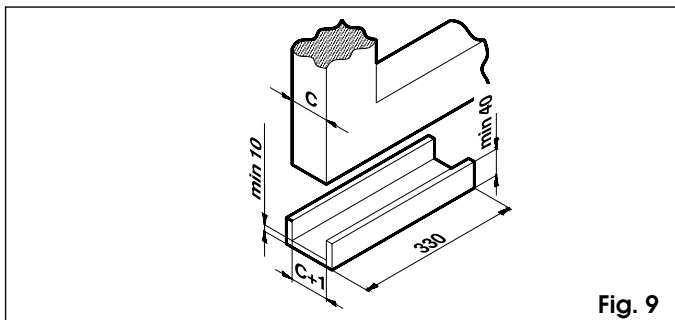

Fig. 9
- use a "U" profile with dimensions indicated in fig. 9;